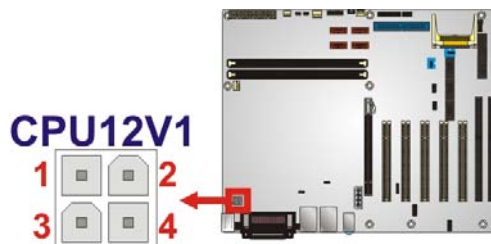

Figure 3-5: CPU Power Input Connector Location
- CN Location: See **Figure 3-5**